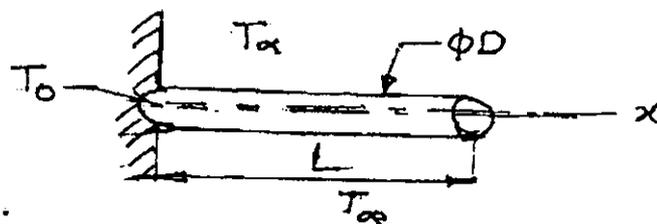

Fig. 2
- (b) A Steel rod of diameter $D = 2$ cm, length $L = 5$ cm, and thermal conductivity $K = 50$ $\text{W m}^{-1} \text{ } ^\circ\text{C}^{-1}$ is exposed to ambient air at $T_\alpha = 20^\circ\text{C}$ with a heat transfer coefficient $\beta = 100$ $\text{W m}^{-2} \text{ } ^\circ\text{C}^{-1}$. If the left end of the rod shown in Fig.2 is maintained at temperature $T_0 = 320^\circ\text{C}$ and the other end is insulated, determine the temperatures at distances 25 mm and 50 mm from the left end and the heat at the left end. The governing differential equation of the problem is